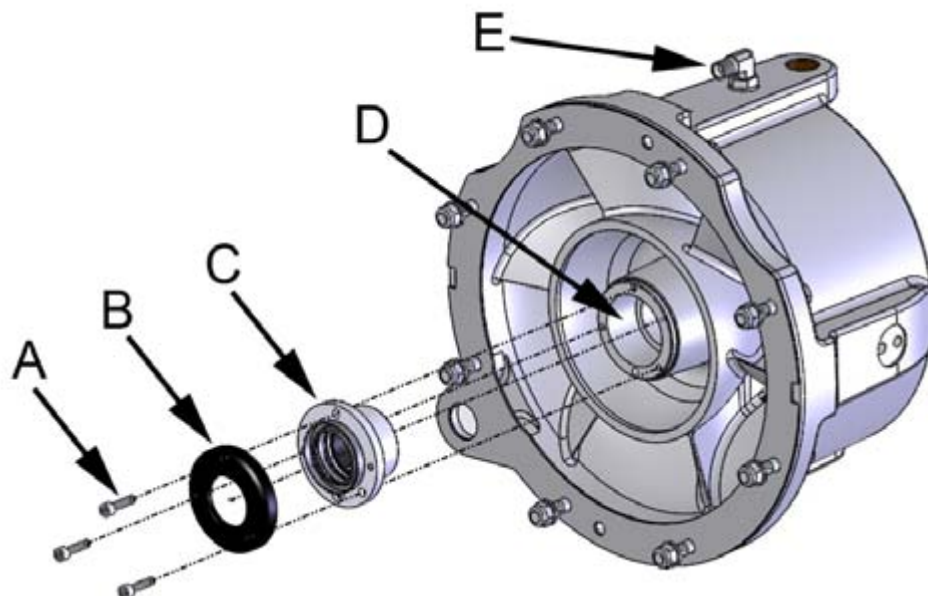

Figure 35. Installing the bearing housing cover
2. Clean the rear end bearing lubrication channel located on the stator (figure 35, point E) of old grease.
3. Push the bearing housing (figure 35, point C) into the stator hole (figure 35, point D) in the correct position so that the three fastening screw (figure 35, point A) holes are aligned. This is when the housing is in the correct position.
4. Install the cover (figure 35, point B) in place and tighten the fastening screws.
5. Remove excess adhesive compound from the hole (figure 35, point D).